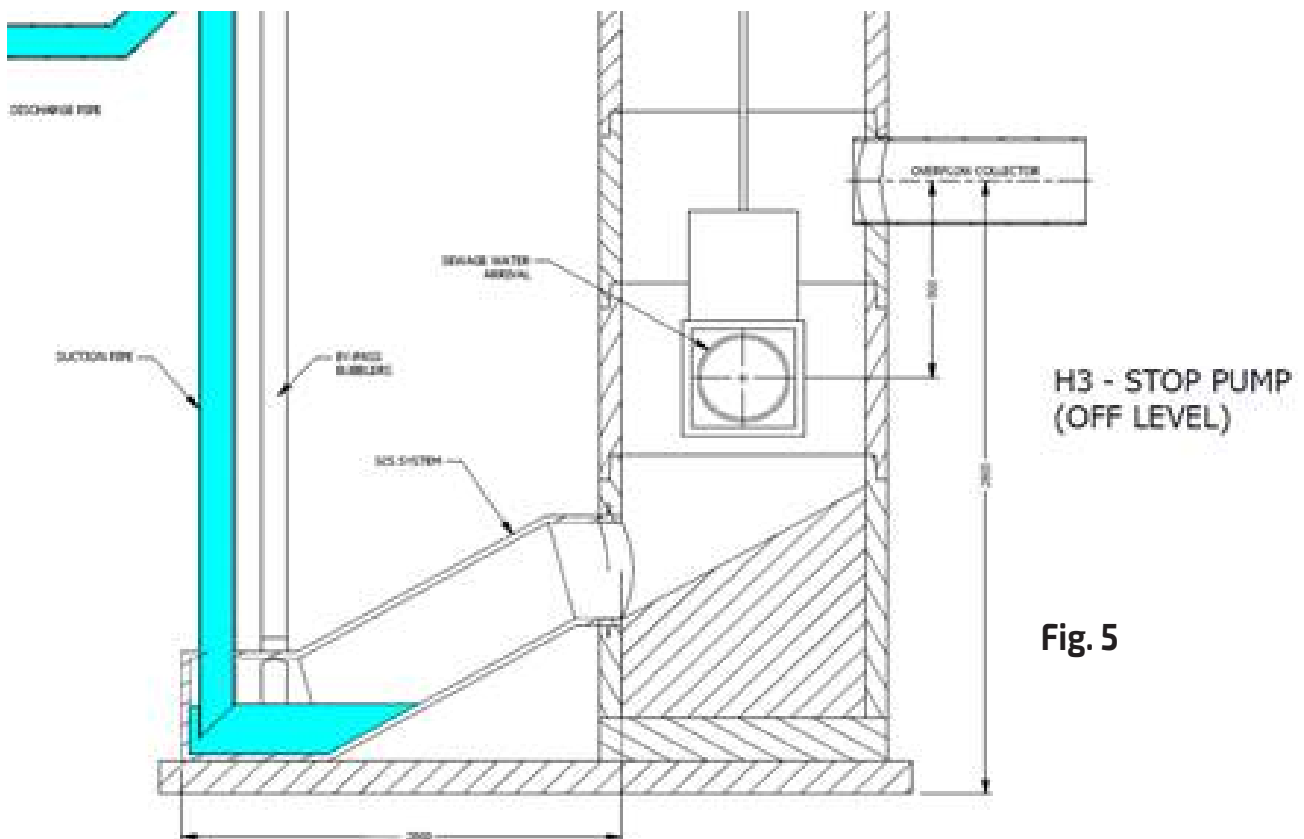

Fig. 5
3. If the pre-set minimum speed is able to lower the level, or if the pre-set regulation level time limit has been reached, the pump will speed back up to maximum speed down to the “off level” [see Fig 5.] to empty the SCS. This faster speed is designed for maximum self cleaning to remove as much of the silt, fat and stringy materials as possible.